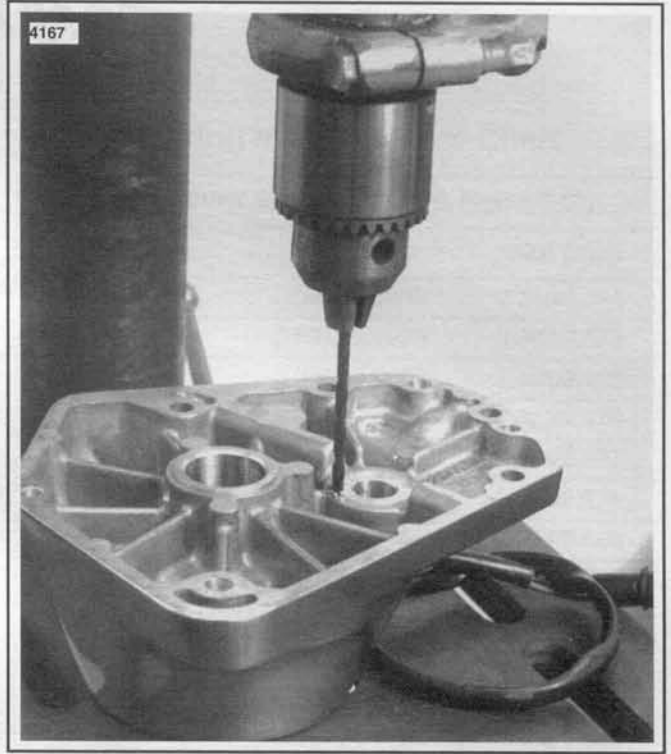

Figure 3-61. Pin Gearcase Cover Bushings
3. See Figure 3-61. Locate and center punch dowel pin location 0.125 in. (3.17 mm) or more from oil hole in cover. Drill No. 31 hole 0.188 in. (4.77 mm) deep. Press in bushing until it bottoms on shoulder in cover boss hole. Continue drilling dowel pin hole to depth of 0.281 in. (7.14 mm) from top of bushing. Drive in new dowel pin no more than 0.020 in. (0.51 mm) below the bushing face and carefully peen edges of hole to lock in place.
3. See Figure 3-61. Center punch and drill No. 31 hole exactly 0.281 in. (7.14 mm) deep. Drive in new dowel pin and peen bushing edges over dowel to secure it. Pin must be no more than 0.020 in. (0.51 mm) below the bushing surface.